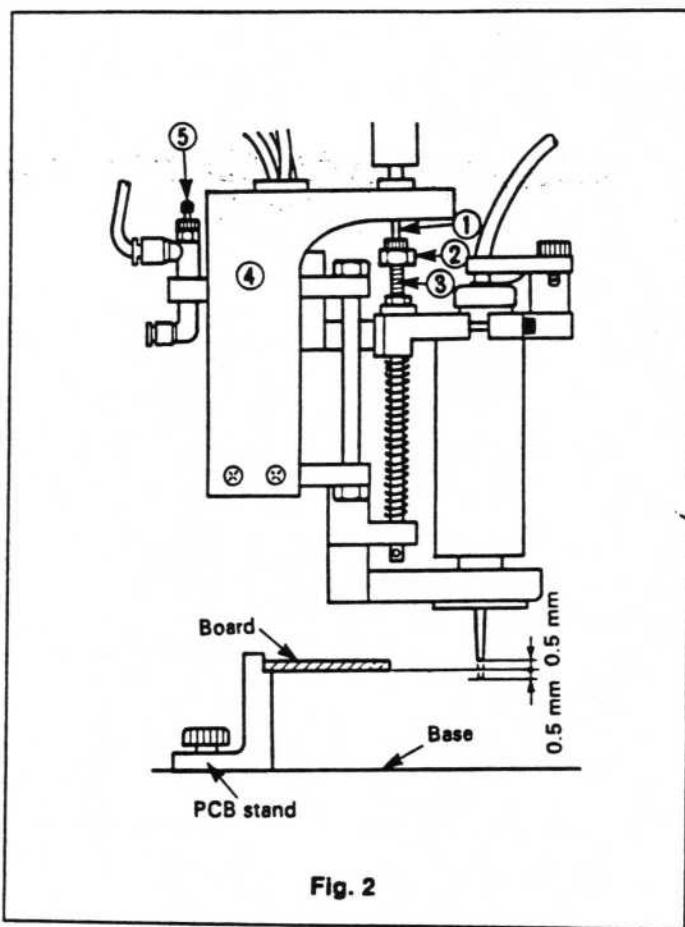

Fig. 2
- (2) Attach the needle (with vinyl tape affixed) and syringe adapter to the syringe and set in the dispenser.
- (3) Attach the BD cylinder bracket ④, making sure that the center of the cylinder shaft ① and center of the hexagonal bolt ② are straight (see Fig. 2). Also check that the height of the needle end is aligned within ± 0.5 mm of the underside of the board when the bit is down. If the needle end height is not so aligned, adjust it with the hexagonal bolt ② and hexagonal nut ③.